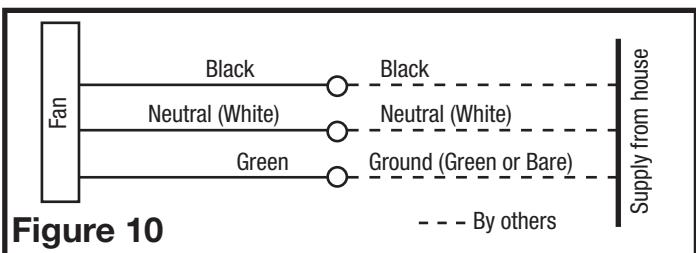

Figure 10
- From where you have access to inside the fan's junction box, connect the White wire from the house to the White wire from the fan's receptacle. Connect the Black wire from the wall switch to the Black wire from the fan's receptacle. Connect the ground wire from the house to the Green wire from the fan's receptacle (Figure 10). Use approved methods for all connections.